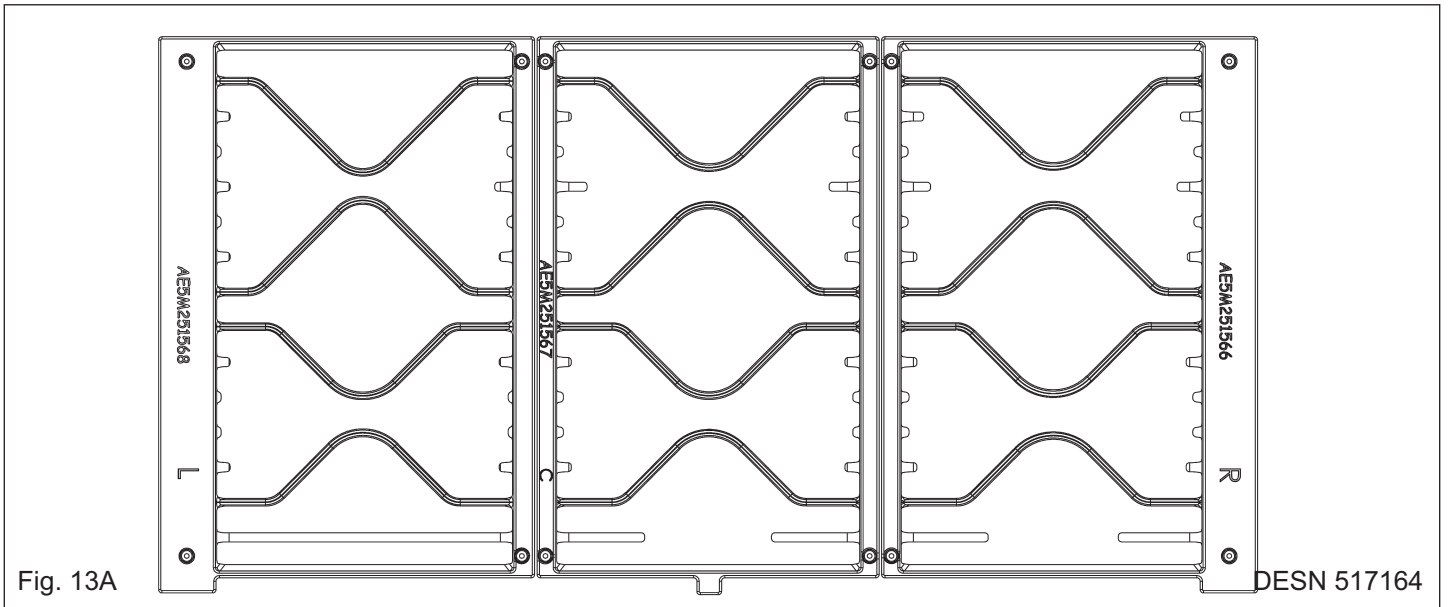

Fig. 12
- Place all pans centrally over the burners. The flames must be on the base of the pan. Do not allow the flames to go up the sides of the pan. (See Fig. 12).